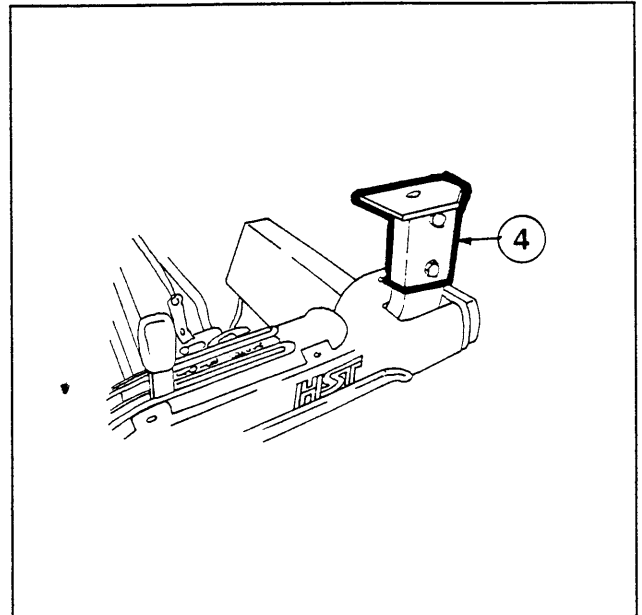

Figure 4
9. Take the left rear bracket (4) and slide it over the 2-post ROPS mount, with the cab mounting plate towards the front and outside. Using the factory bolts removed in step 2, bolt the bracket loosely to the mount. (see Figure 4)